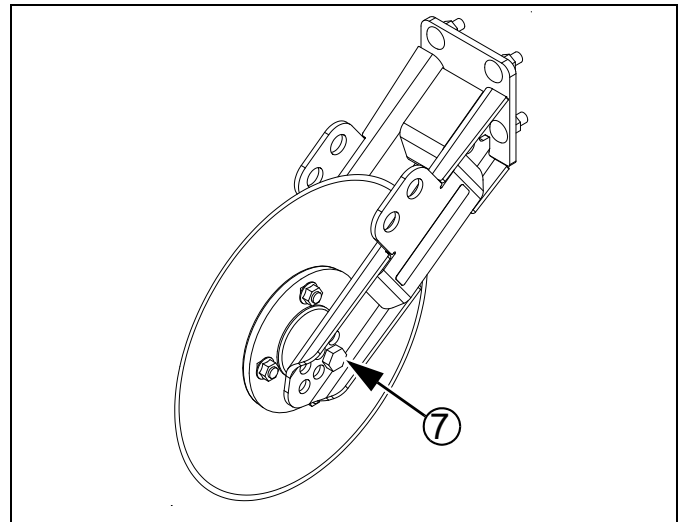
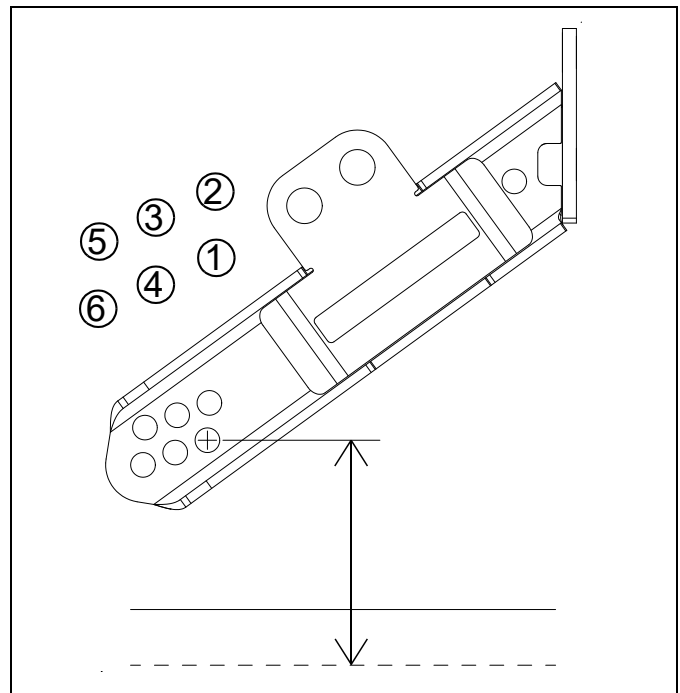

Figure 78
Figure 79
Refer to Figure 78 and Figure 79
5. Remove the $\frac{5}{8}$ -11 x 4 in. bolt, lock washer and nut (7 in Figure 78).